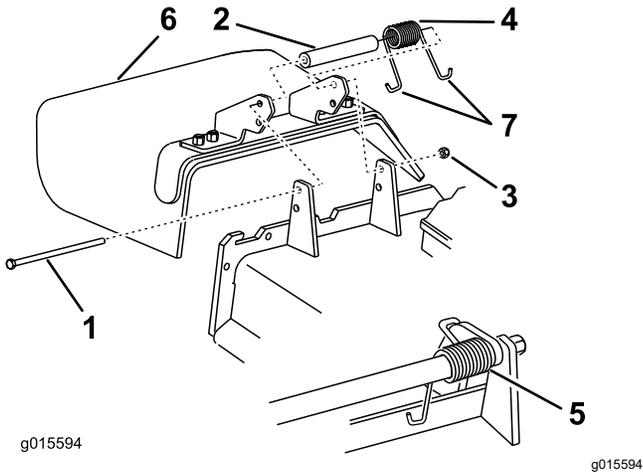

Figure 5
1. Remove the locknut, bolt, spring, and spacer holding the deflector to the pivot brackets (Figure 5).
2. Remove the grass deflector (Figure 5).